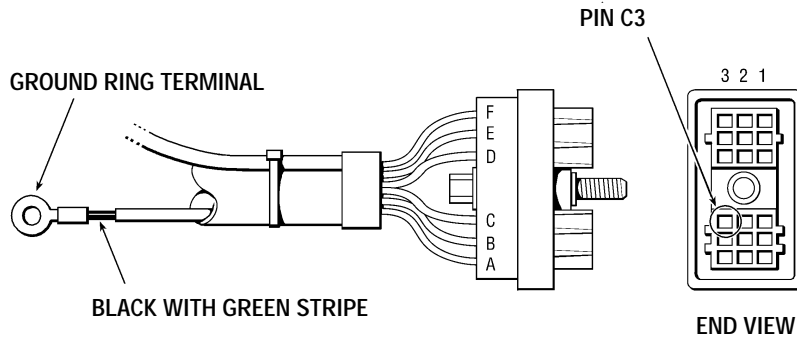
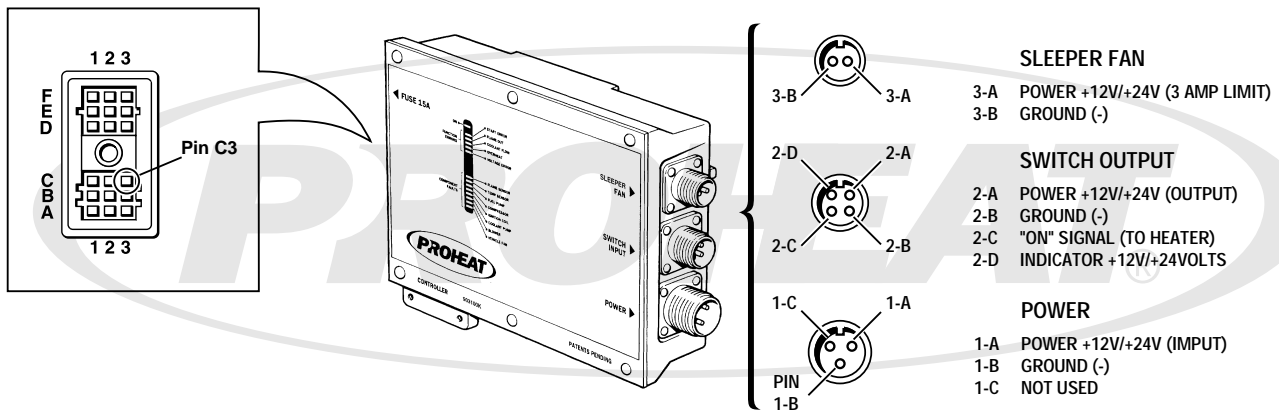

FIGURE 1
FIGURE 2
3. To locate the fault in the ground circuit, first check the internal harness. The ground wire is black with a green stripe. Remove the 18 pin connector from the controller and check for continuity between the ground pin (Pin C3) and the ring terminal. See Figure 1 (over). If a fault is found replace the harness. Next, check the controller by measuring for continuity between pin C3 on the controller 18 pin connector and pin B at the power harness connector. See Figure 2.